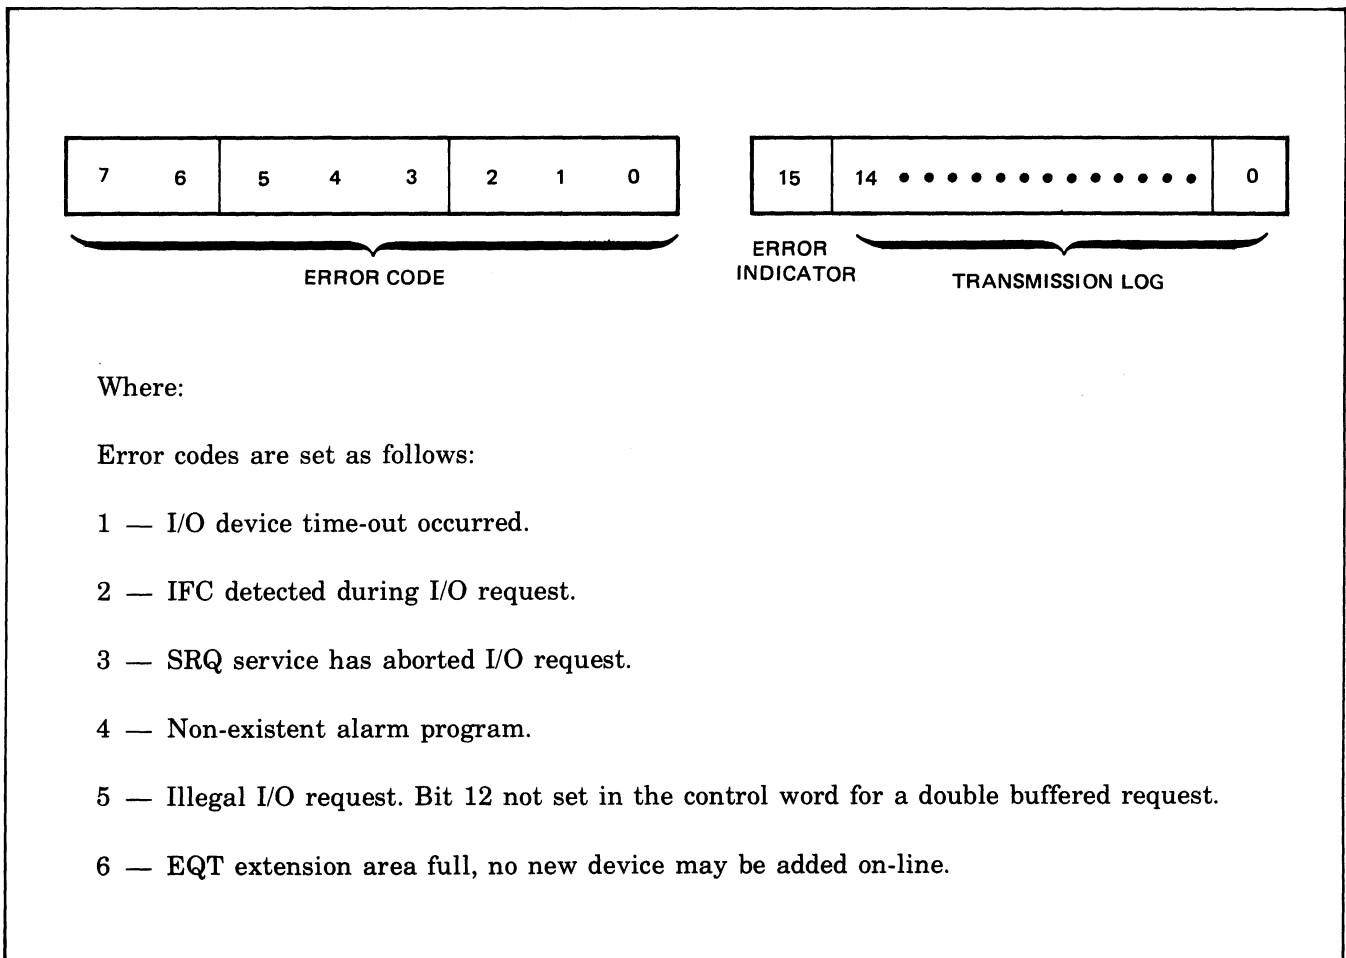

Figure 2-2. Error Codes
- If B-Register, bit 15 = 1, then an I/O error has occurred, and the error code defining the type of error will be found in the lower 8-bits of the A-Register (see figure 2-2).
If there is an error during an I/O or status request, the bits are set as shown in figure 2-2. If the request was a status type (i.e., Dynamic Device Status, Dynamic Bus Status, or Parallel Poll Status), then bits 0 through 7 will be set as shown in figure 2-3.
The status information byte maintained at EQT word 5 is cleared at normal completion of all driver requests except for Dynamic Device and Bus Status, and Parallel Poll Status. Refer to figure 2-3 for these status information formats. Note that, should an error be detected by the Driver, appropriate error status is posted instead. See figure 2-2 for the format.